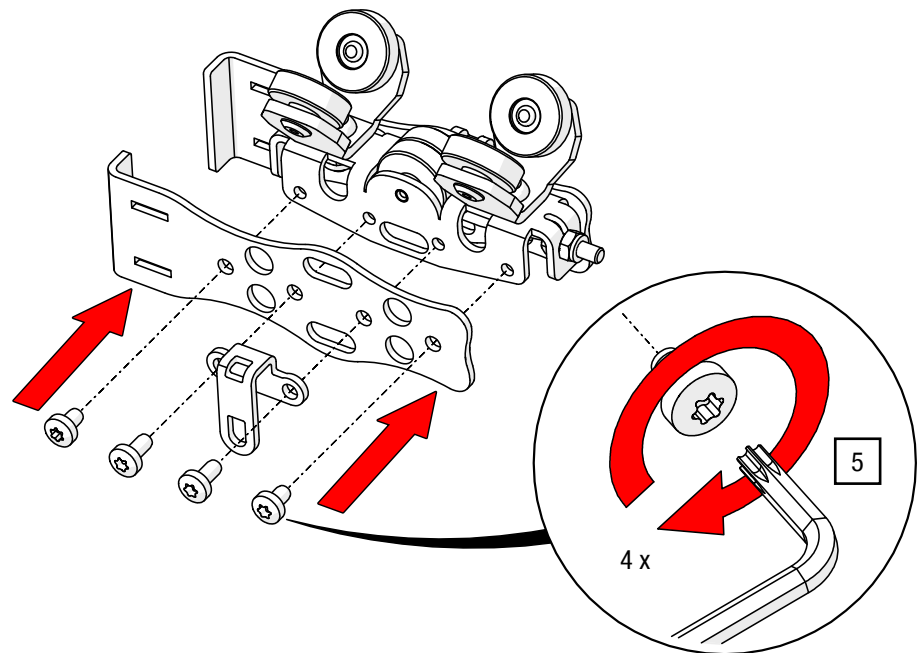

Fig. 58: OFFICE master runner – Mount side plate on opposite side
5. Screw the master runner to the side plate and the lateral eyelet plate using a TORX®-key T20 until the plate is flush with the master runner (see Fig. 58).